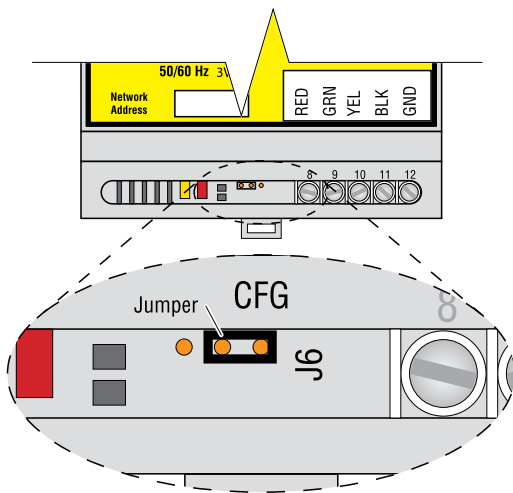

Figure 7a. Configuration Jumper in Configuration Position
- Place the TTSIM-1 configuration jumper in the CFG position, as shown in Figure 7a.